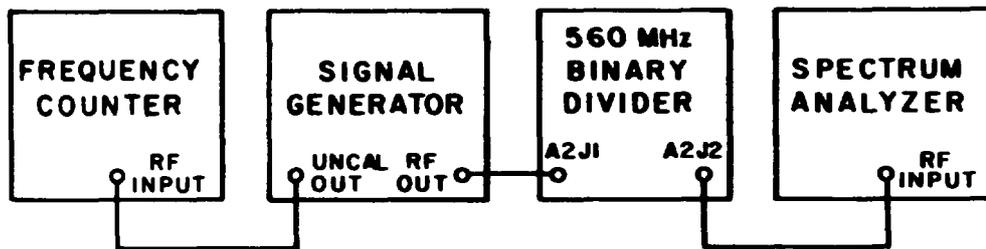

Figure 4-3. Test Setup, 560 MHz Binary Divider Performance Test
**4.6.2 TYPE 791834 560 MHz BINARY DIVIDER (A2) PERFORMANCE TEST** - Input signals in the range of 310 to 560 MHz are divided by two and appear at the output as signals in the range of 155 to 280 MHz. For proper operation, input signal levels must be in the range of 0 to -13 dBm; output signals should then be at least -17 dBm (35 mV). A 35 mV signal will not drive most test type frequency counters. Therefore, Figure 4-3 shows a Watkins-Johnson Type DRO-280A Frequency Counter for testing the Divider output. If a counter having the required sensitivity is available (such as the Hewlett-Packard Model 5340A), the DRO-280A is not required. To test the Divider proceed as follows:
- (1) Connect +5 volts to input pin E5 of the Divider sub-assembly.
- (2) Connect the equipment as shown in Figure 4-3.
- (3) Set the signal generator to 310 MHz, -13 dBm.
- (4) Set the spectrum analyzer to view a signal in the range of 140 to 290 MHz. Establish a -17 dBm reference.